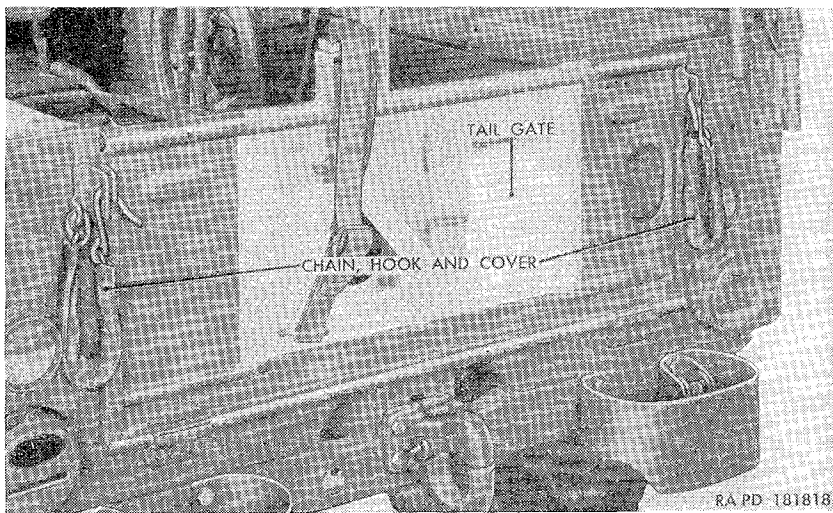
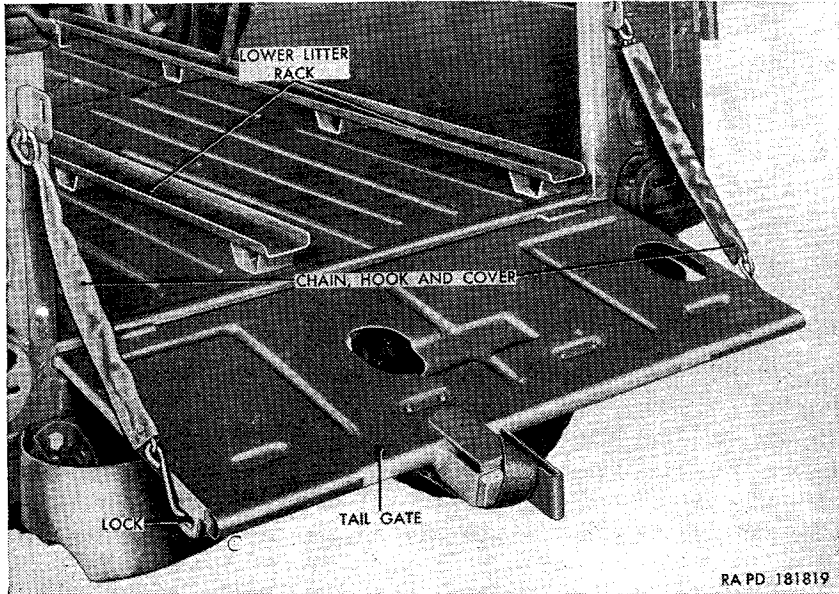

Figure 24. Tailgate (M170)—raised position.
Figure 25. Tailgate (M170)—lowered position.
*b. Lowering.* Remove the hook of each tailgate chain, hook and cover (fig. 24) from the bracket on the body rear panel and the tail-
gate lock. Lower tailgate to horizontal position and secure in lowered position by inserting the hook of each tailgate chain, hook, and cover (fig. 25) into the tailgate locks.
c. *Raising.* Remove the hook of each tailgate chain, hook, and cover (fig. 25) from the tailgate lock. Raise the tailgate to vertical position and secure in place by inserting the hook of each tailgate chain, hook, and cover (fig. 24) through the bracket on the body rear panel and the tailgate lock.